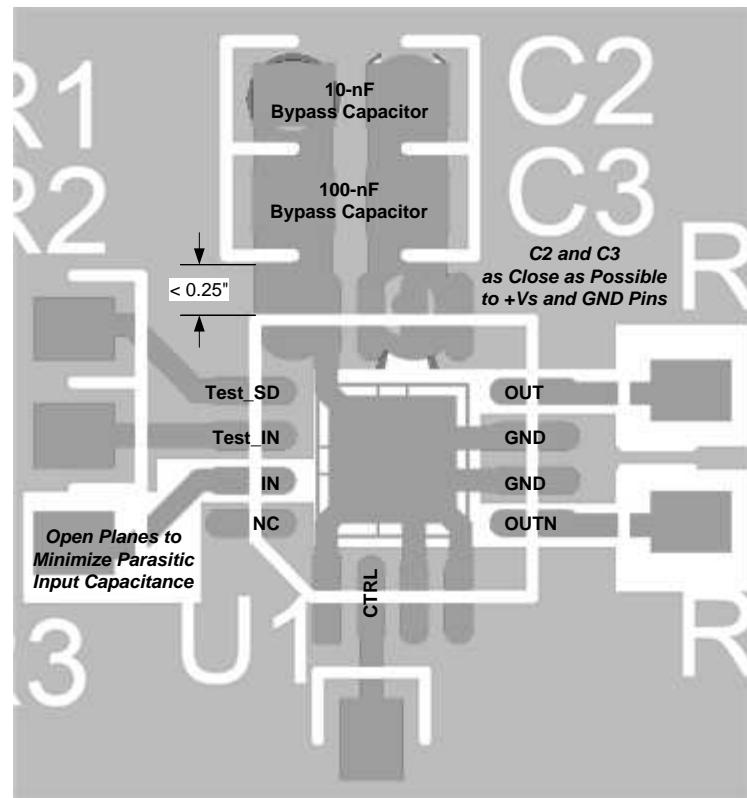

图 48. Layout Example
- b. **Minimize the distance** ($< 0.25"$) from the power-supply pins to high-frequency $0.1\text{-}\mu\text{F}$ decoupling capacitors, as shown in 图 48. At the device pins, make sure that the ground and power-plane layout are not in close proximity to the signal I/O pins. Avoid narrow power and ground traces to minimize inductance between the pins and decoupling capacitors. Always decouple the power-supply connections with these capacitors. An optional supply decoupling capacitor ($0.1\text{ }\mu\text{F}$) across the two power supplies (for bipolar operation) improves second-harmonic distortion performance. Use larger ($2.2\text{ }\mu\text{F}$ to $6.8\text{ }\mu\text{F}$) decoupling capacitors, effective at lower frequencies, on the main supply pins. These capacitors can be placed somewhat farther from the device and can be shared among several devices in the same area of the PC board.